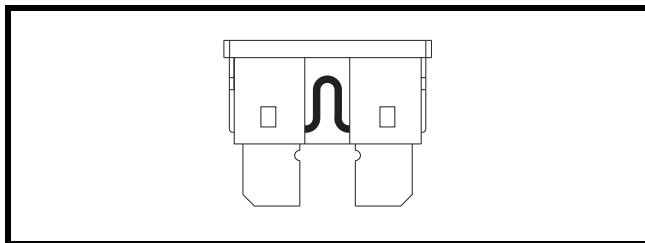

Figure 28. Working Fuse
2. Examine the fuse to be sure it is blown. See figures 28 and 29.